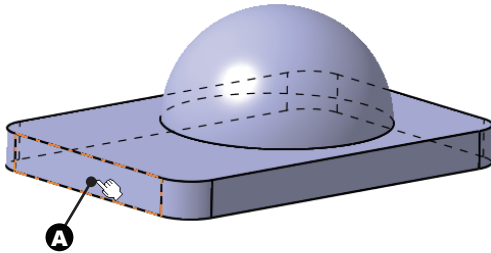

Fig 6-38 Sketch Plane
1. Press the **Sketch** button and select the plane **A** shown in fig 6-38 as the sketch plane. Be careful not to select the other side of the base plate because the hemisphere is one-sided.